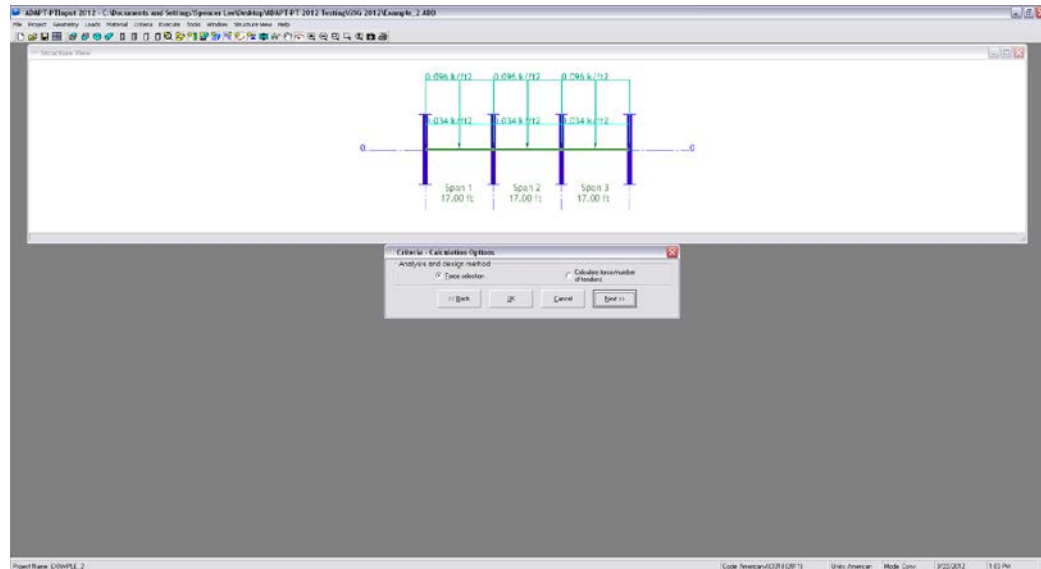

FIGURE 3.1-15
3.1.5.3 Select The Post-Tensioning Design Option (Fig. 3.1-15)
The two design options are “Force selection” and “Calculate force/number of tendons,” as in **Figure 3.1-15**. **Force selection** is the default option and will be used for this example.